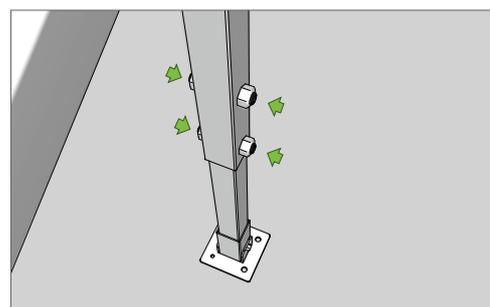

Fig 2
- Adjust stand angle to desired position by lifting the back of the side section causing the back leg section to telescope. Once at the desired angle, tighten the sliding back legs with the black grub screws (4 per leg) as shown in Fig 2